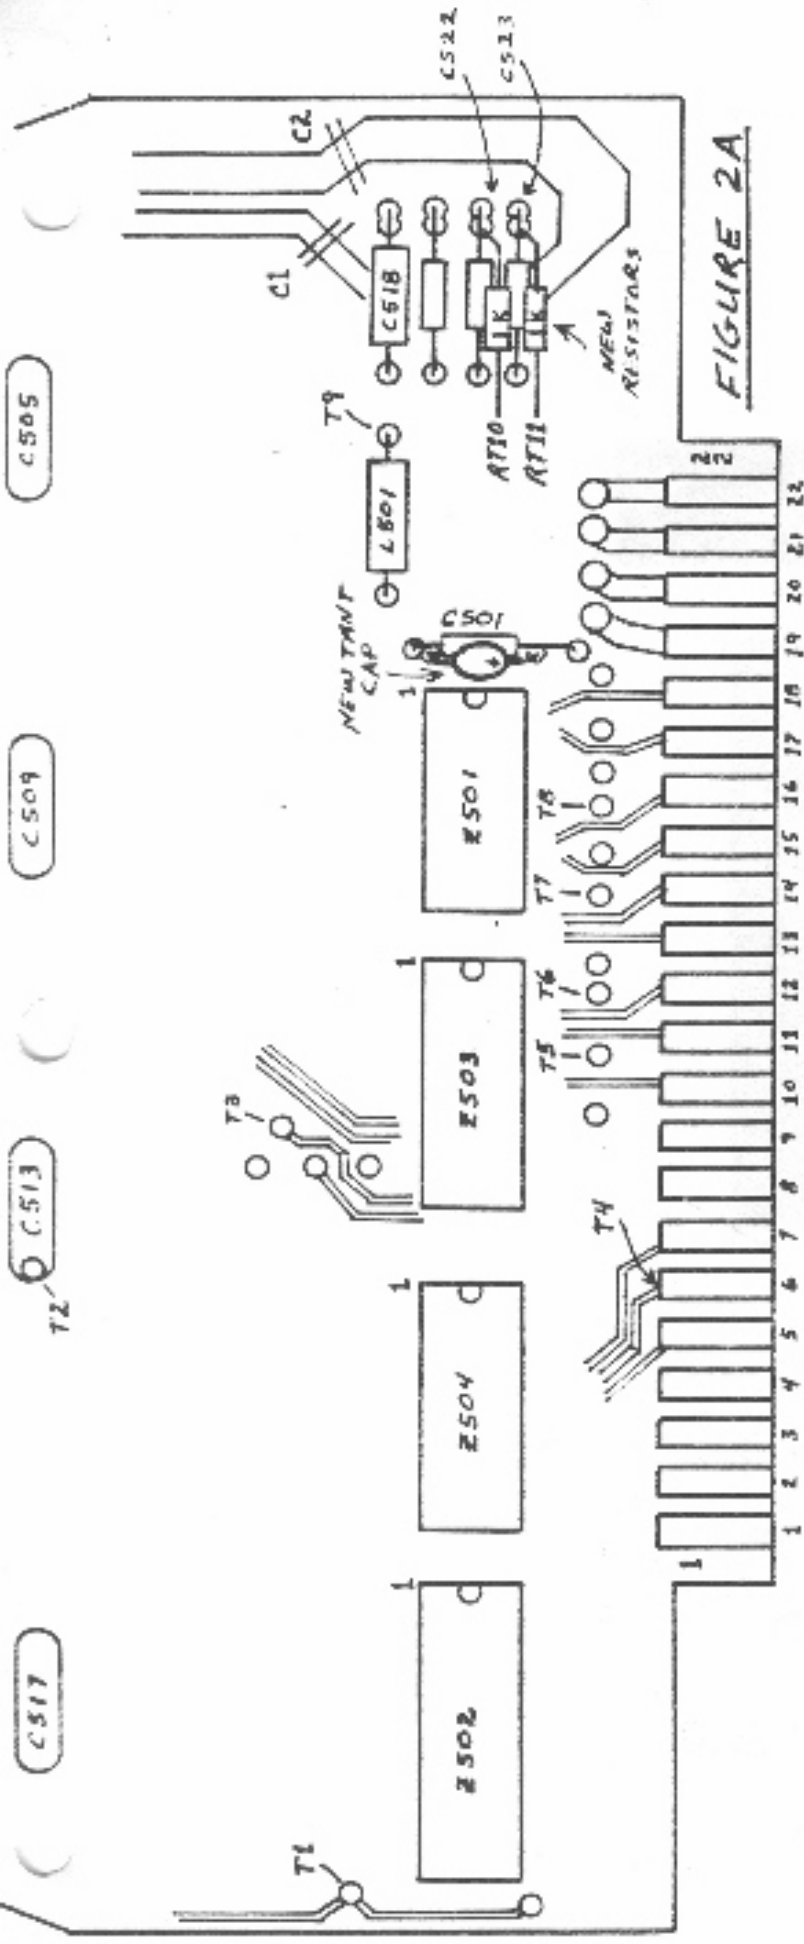

FIGURE 2A
- () C1 on the component side (Figure 2A)
- () C2 on the component side (Figure 2A)
- 16.() Connect one lead of a 1K resistor to the empty feedthru at the right end of capacitor C522 as shown in Figure 2A. Connect one lead of the other 1k resistor to the empty feedthru at the right end of capacitor C523. These two capacitors are located in the lower right corner of the circuit board to the right of Z501. Bend the body of each resistor down so that they lay alongside the capacitors. Cut the free lead of each resistor to 1/8".
- 17.() Install the 10 mfd tantalum capacitor across existing capacitor C501. C501 is located at the pin 1 end of Z501. OBSERVE POLARITY of the tantalum capacitor: its positive lead, designated by a dot or a + sign, MUST be oriented as shown in Figure 2A, towards the connector edge of the board.
27. Install the following wires from the indicated IC's to the indicated tap points on the board (see Figure 2A), using insulated #30 wire.